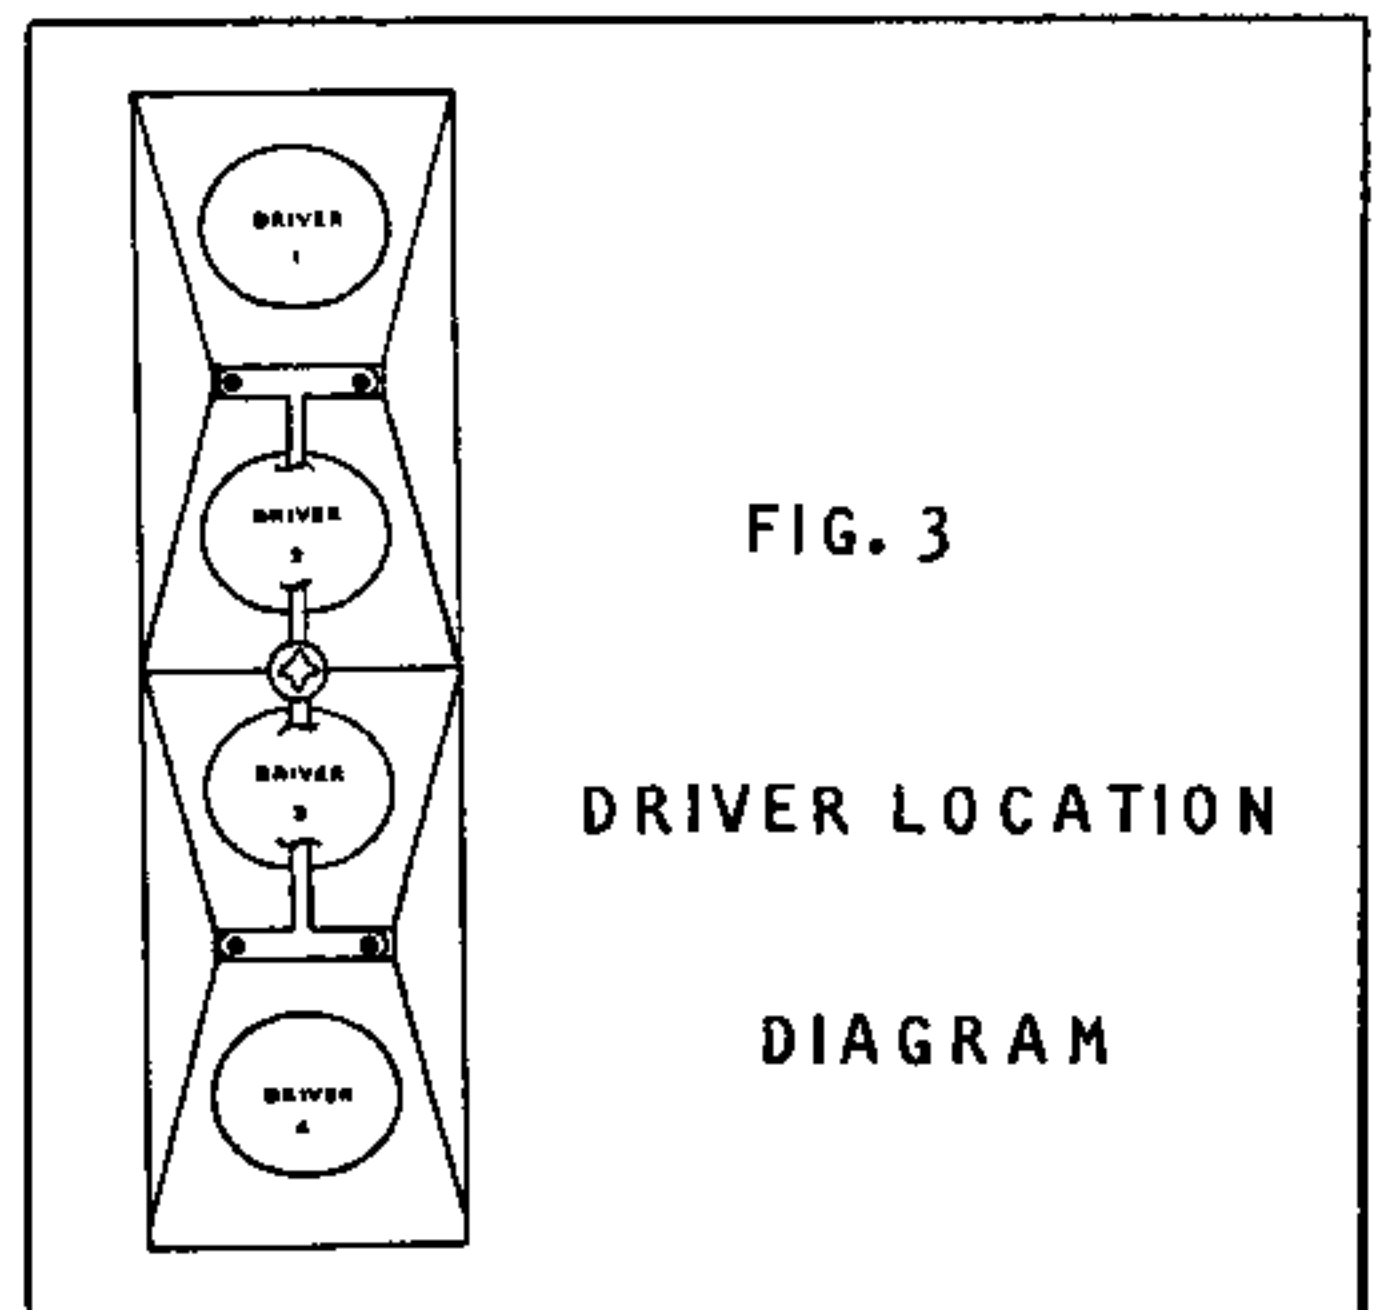

FIG. 3
Driver 2 or 3 open (see Fig. 3)
- Driver 1 or 4 open (see Fig. 3)
Knowing the location of the four drivers in the 402 and 402-W loudspeakers will aid in troubleshooting the speaker (see above chart). To find the driver location, set the speaker upright in reference to the input terminals. With the print on the Terminal section reading correctly (not upside down), the driver location is shown in Figure 3.
1. Locate driver #1 (See Driver Location Drawing Fig. 3) and perform steps 1 thru 4 of Driver Test and Replacement procedure.